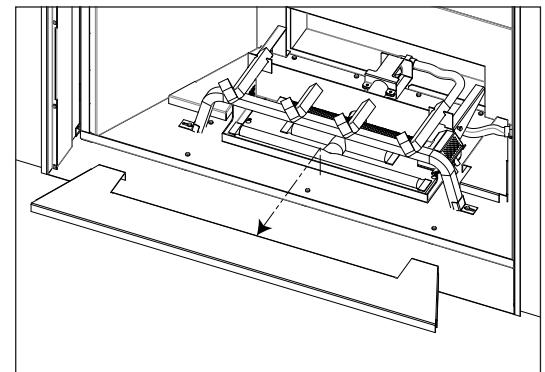

Figure 8: Bottom Steel Liner Removal
5. Remove the bottom steel liner from the firebox (see Figure 8).